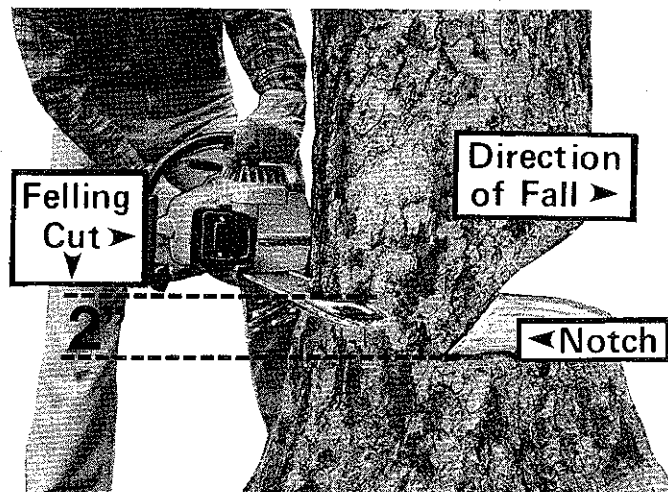

Figure 9
1. The notch is very important. The tree will try to fall "into" the notch. (See Figure 9)